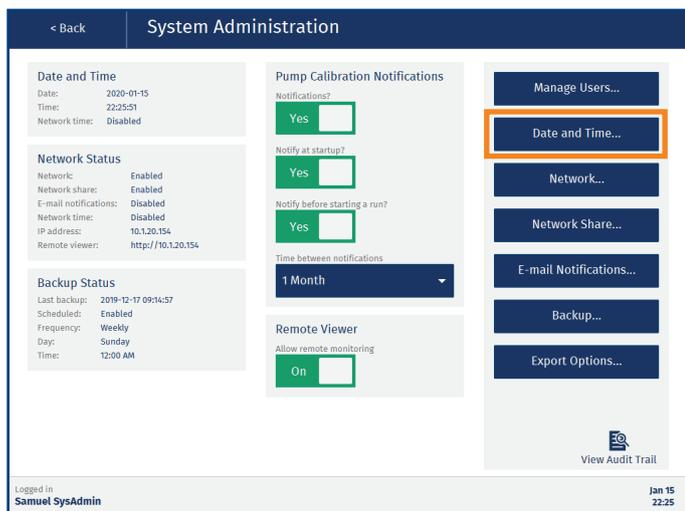

Figure 27. The System Administration view.
1. In the **System Administration** view, press **Date and Time...** (see Figure 27).